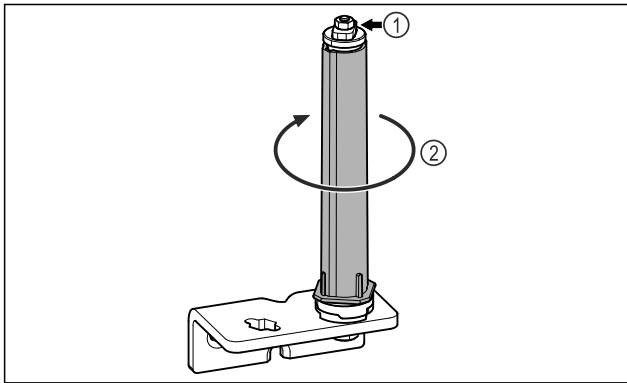

Fig. 29
- Do not disassemble the door locking system Fig. 29 (1).
- Turn the locking system Fig. 29 (2) until it clicks.